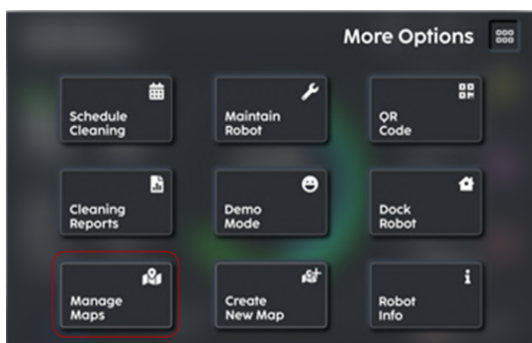

FIGURE 8-3
1. Navigate to "Manage Maps" under "More Options" on the touchscreen (**Fig. 8-3**).